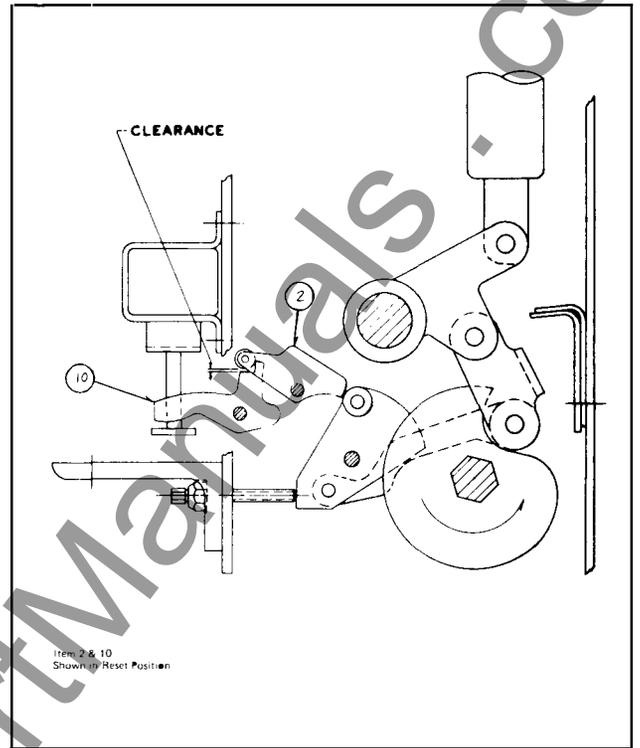

Fig. 8b Breaker Open and Spring Charged
1. Loosen locking nut (item 18).
2. Referring to Fig. 8B turn the tripping cam adjusting screw (Item 17) "in" - Clockwise - until the roller on the front end of the tripping latch (item 2) positively engages the latch surface of the tripping trigger (item 10) - zero clearance. Do not tighten beyond a nominal positive engagement.
4. Back the trip cam adjusting screw "out" **VERY SLOWLY** until the trip latch roller and tripping trigger just reset - (as shown in Fig. 8B except zero clearance). Then back the adjusting screw "out" one quarter turn additional. At this setting there will be a small but noticeable clearance between the roller and the tripping trigger.
c. After all adjustments have been made and the above tests have been successfully completed secure the adjustment by tightening the locking nut (item 18) while holding the tripping cam adjusting screw in its finally adjusted position.
d. The clearance (Fig. 8B) obtained on most breakers will be in the range .005 to .015 inches. (If a gap gage is used to check the clearance care must be taken to be sure the roller is not raised by insertion of the gage). See Par. 7 following.
a. With the breaker open and the closing spring discharged, charge the closing spring. The tripping trigger and trip latch roller should freely assume the reset position with clearance as shown on Fig. 8B immediately after the closing spring is fully charged. If not, unlock the locking
7. The normal clearance between the tripping latch roller and the tripping trigger in reset position Fig. 8B will usually be in the range of .005 to .015 inches. This clearance may vary from breaker to breaker and may increase slightly as a breaker accumulates operations. It is desirable to maintain the clearance within the stated range, but breakers with clearances of .032 inches and more have successfully operated. The stated range therefore should be considered as a practical guide. It is not a mandatory precision measurement requiring frequent readjustment.